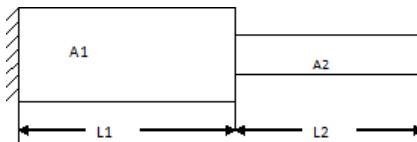

Figure 4
b) For the stepped bar shown in the figure 4. Develop the global stiffness and mass matrices and also determine the natural frequencies and mode shapes. Assume  $E = 200 \text{ GPa}$  and mass density  $= 7850 \text{ kg/m}^3$ ,  $L_1 = L_2 = 0.3 \text{ m}$ ,  $A_1 = 350 \text{ mm}^2$ ,  $A_2 = 600 \text{ mm}^2$ . (15)